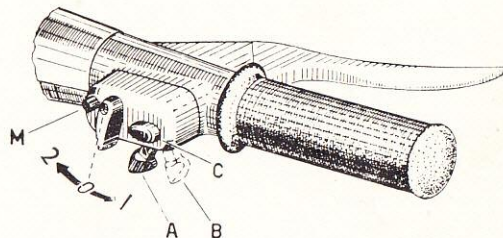

Fig. 11. Light and dip switch positions.
The **tail lamp** with red reflector has a 3W bulb which also illuminates the number plate. The light and dip **switch** with two levers is installed on the right hand side of the handlebars (Fig. 11). The switch has also two push buttons for cut-out (M) and horn (C) respectively.